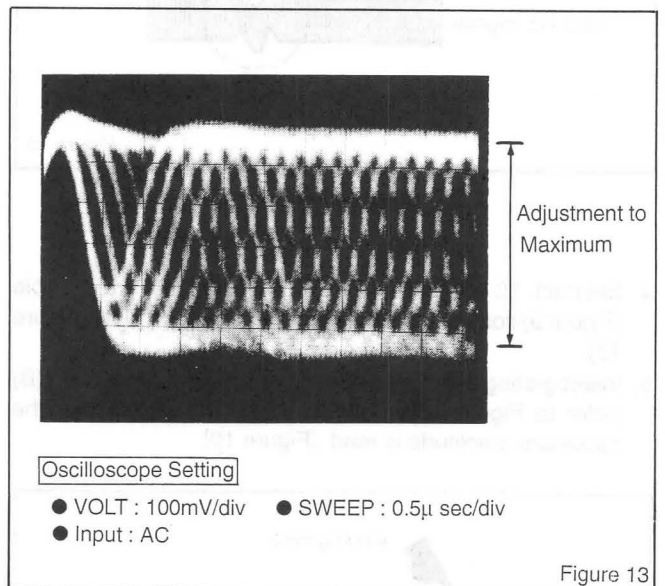

Figure 13
3. Alternately adjust Tangential Roller (B) Adjustment Screw and VR002 , so that HF eye pattern reads maximum [Figure 13].